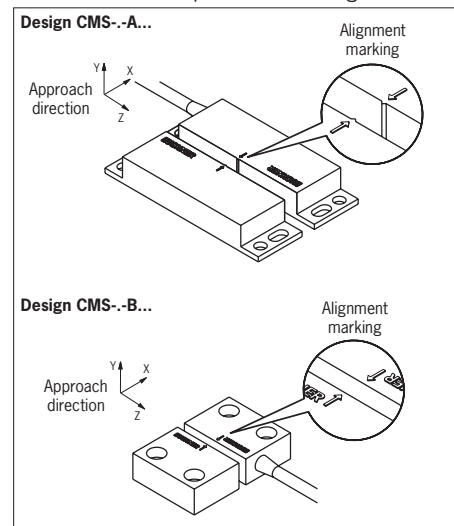

Fig. 1: Alignment of read head and actuator
The read head and actuator may be installed in any position. The alignment of the read head and the actuator must be kept in mind (see Fig. 1).
- ▶ when the guard is closed, the active read head and actuator faces are exactly aligned (see Fig. 1)
- ▶ If the approach speed between the read head and the actuator is low, the approach direction **Z** (see Fig. 1) should be avoided.